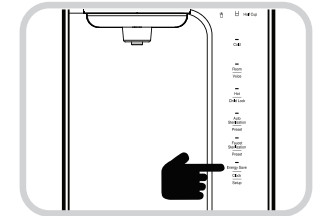

Fig. 6
1. Press the Energy Save/Clock (Setup) button for three seconds. (Fig. 6). The Voice Guide will say "selecting user setting mode". "user setting mode, please set function by pressing the illuminated button".
3. Select the desired amount of out flow and save it by pressing the Energy Save/Clock (Setup) button. (Fig. 6)
1. Press The Energy Save/Clock (Setup) button while the Energy Save/Clock (Setup) Display Lamp is OFF. (Fig. 6).